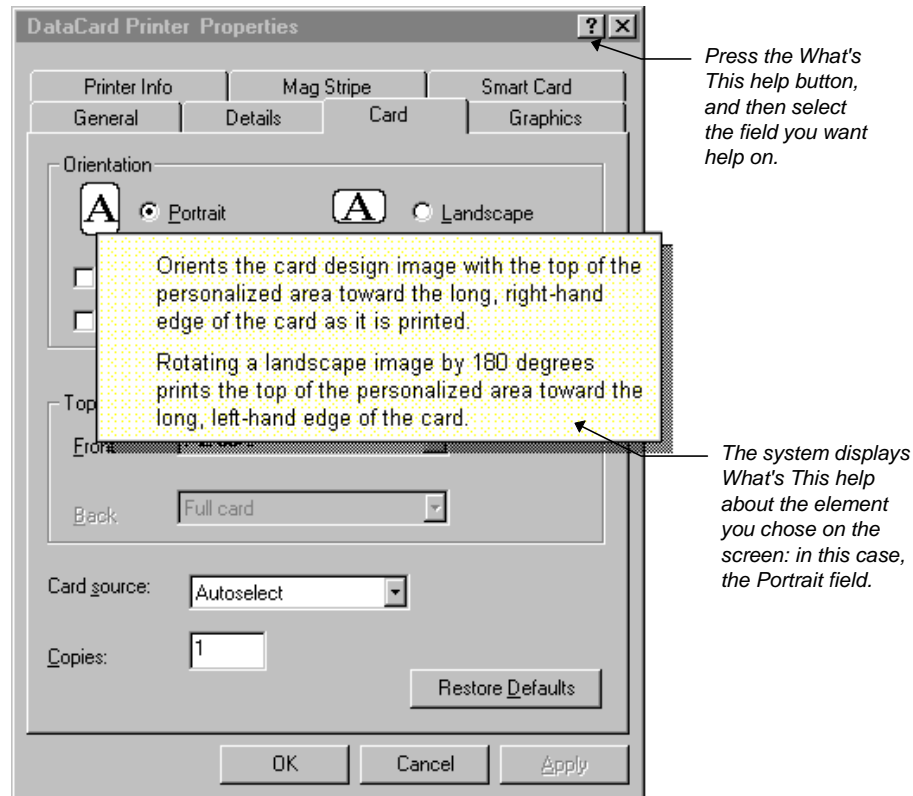

Figure 3:-8 What's This help
Click on the Mag stripe card button to create a magnetic stripe test card. Depending on what type of magnetic stripe encoding you use, the test card should look like the one in Figure 3:-6 (IAT encoding) or Figure 3:-7 (NTT encoding). For more information on this, see *Printing magnetic stripe test cards* in Chapter 2.
What's This help provides information about specific items or areas of the printer driver without interrupting your work (see Figure 3:-8).
1. Click on the What's This help button (see Figure 3:-8). Notice that the mouse pointer now has a question mark attached to it.